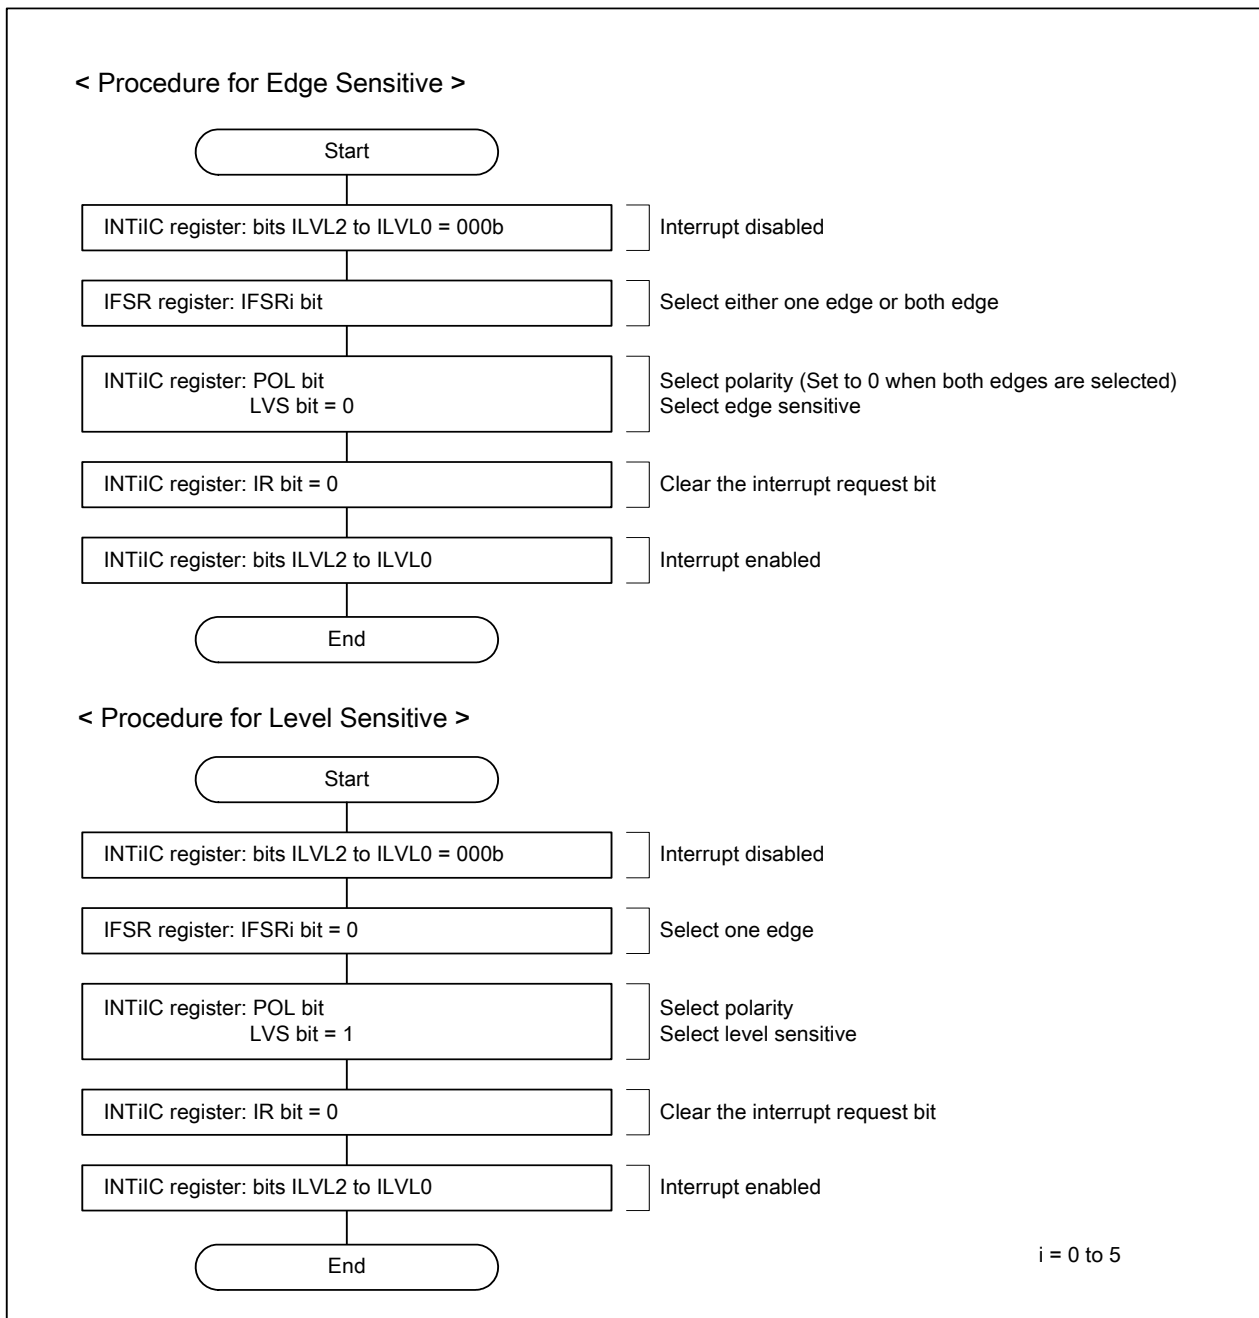

Figure 24.3 Switching Procedure for $\overline{\text{INT}}_i$ (i = 0 to 5) Interrupt Source
- The IR bit in the INTiIC register (i = 0 to 5) may become 1 (interrupt requested) when the polarity settings of pins $\overline{\text{INT0}}$ to $\overline{\text{INT5}}$ are changed. Set the IR bit to 0 (interrupt not requested) after the polarity setting is changed. Figure 24.3 shows an example of the switching procedure for an $\overline{\text{INTi}}$ interrupt source (i = 0 to 5).